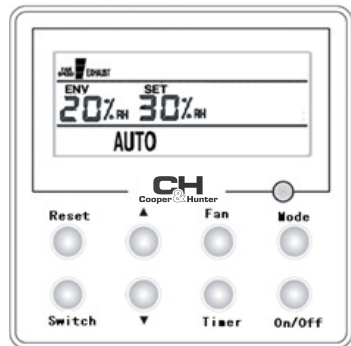

Figure 5
- ◆ As shown in the figure 5, under discharge or supply air modes, by pressing the “Fan” key, the fan speed will switch between low and high speed, which is also unavailable for CH-HRV15 and CH-HRV20.